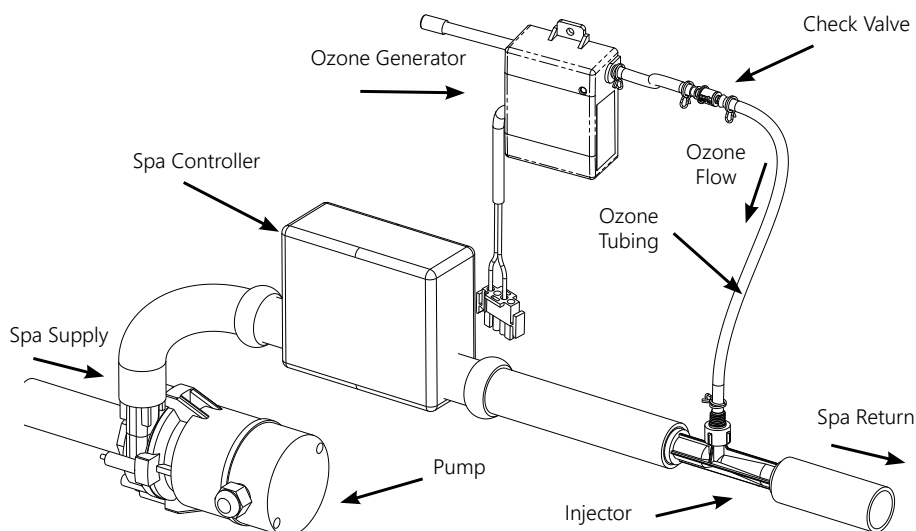

Figure 1: DEL Ozone Typical Mixing System
- For optimal dissolution of ozone into the water, install the DEL mixing system in the water circulation line as generally shown in Figure 1.